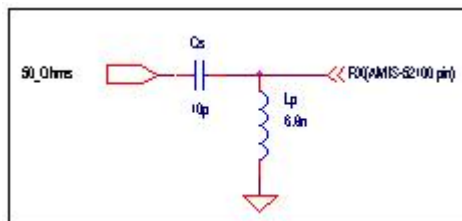

Figure 3: Typical Input Impedance Match to 50Ω (402MHz)
RX1 and RX2 are RF antenna inputs to the AMIS-52100. The internal circuit designs are identical between these inputs. The AMIS-52100 receiver inputs, RX1 and RX2, require external components to match the low noise amplifier (LNA) to external devices such as antennas. The external components must provide a DC voltage path to the RF ground. Figure 3 suggests an external circuit for the receiver inputs at 403MHz. Each circuit's input impedance can be trimmed internally to compensate for device manufacture and external component tolerances. The circuits employ an LNA, internal filters, a low frequency, intermediate frequency (IF), and an received signal strength indication (RSSI) circuit to recover the ASK/OOK modulated data. The signals in the two input channels are "summed" before the data recovery circuit.